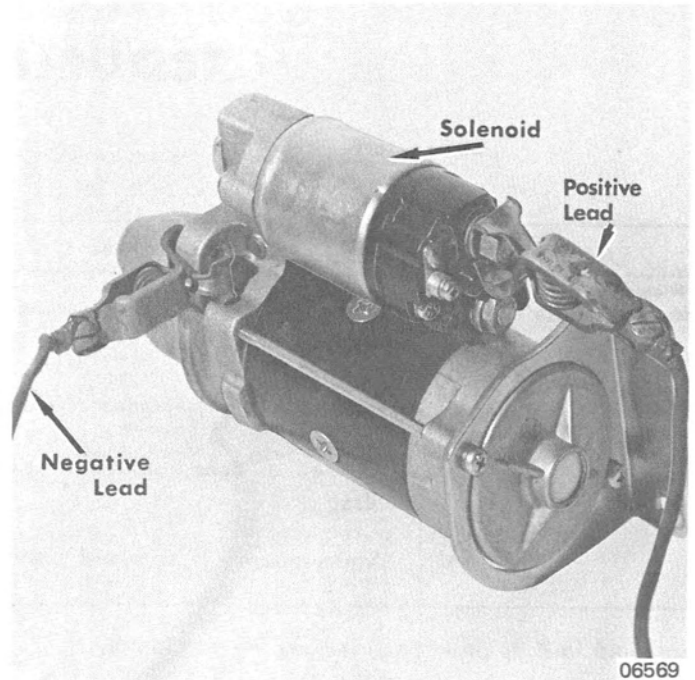

Figure 2. Checking Solenoid Plunger Return
- c. Check solenoid return performance by connecting positive battery lead to contact terminal on top of solenoid and negative lead to solenoid body. (Figure 2) After pulling out pinion until it reaches pinion stop collar, release pinion. If pinion returns with 12 volts applied, solenoid is satisfactory.